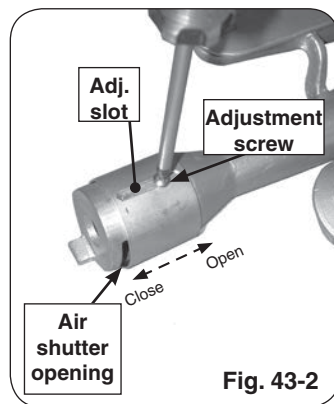

Fig. 43-2
3. Adjust the air shutter opening by loosening the adjustment screw with a screwdriver, then sliding the air shutter backward or forward to open or close the air shutter opening (see Fig. 43-2).